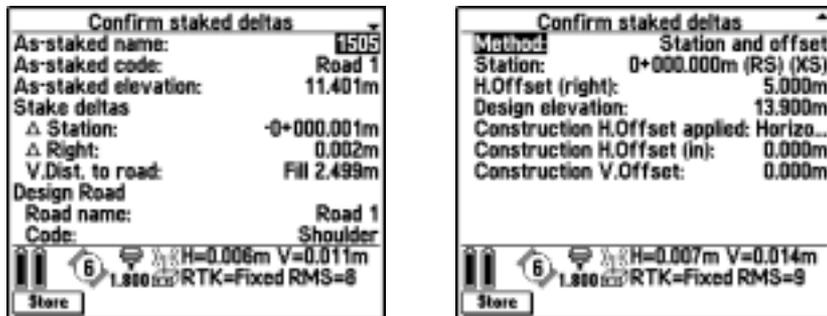

Figure 18.16 Stakeout deltas – non-side slope point
- If the *View deltas before storage* field in the *Stakeout settings* screen is set to Yes and you are staking out a non-side slope point, screens similar to those shown in Figure 18.16 appear.